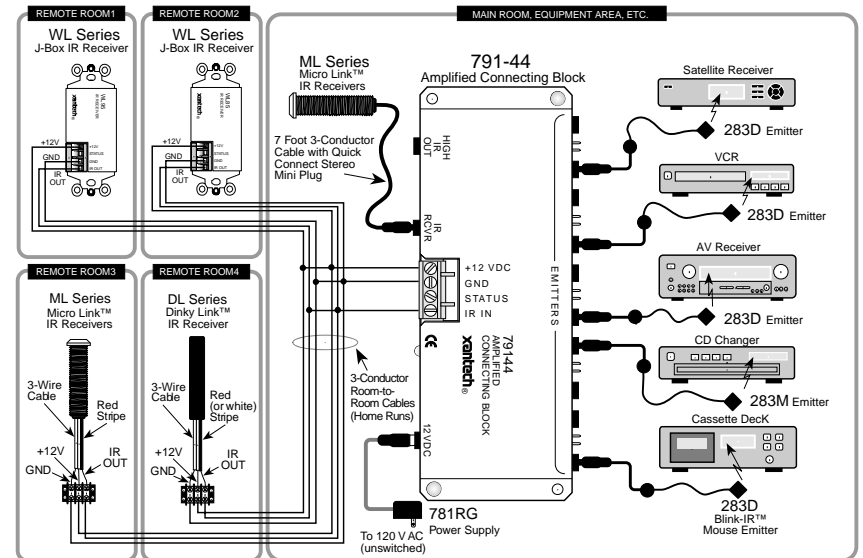

Figure 4 - Advanced Wiring Configuration using WL series, ML and DL series, 781ERGPS Power Supply and multiple 283D's
WL25 may also be used in conjunction with other Xantech IR Receivers by simply wiring in parallel on a Connecting Block such as the 791-44 Amplified Block as shown in Figure 4 below.
1. Connect all IR Receivers in parallel at the terminals of the connecting block as shown in **Figure 4** on the next page.